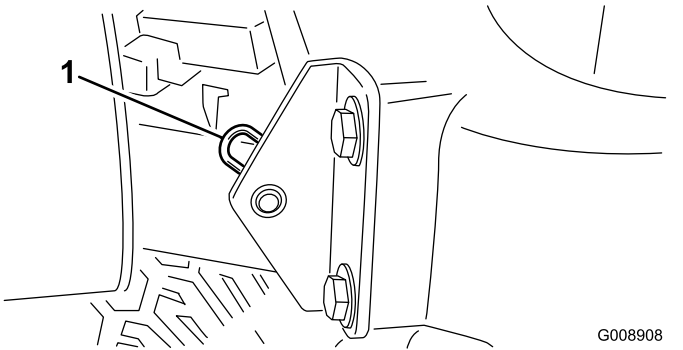

Figure 30
- 2. Remove the hairpin cotter securing the hood pivot to the mounting brackets (Figure 30).
**Note:** The flush fittings on the rollers (Figure 30) require a grease gun nozzle adapter. Order Toro Part No. 107-1998 from your Authorized Toro Distributor.